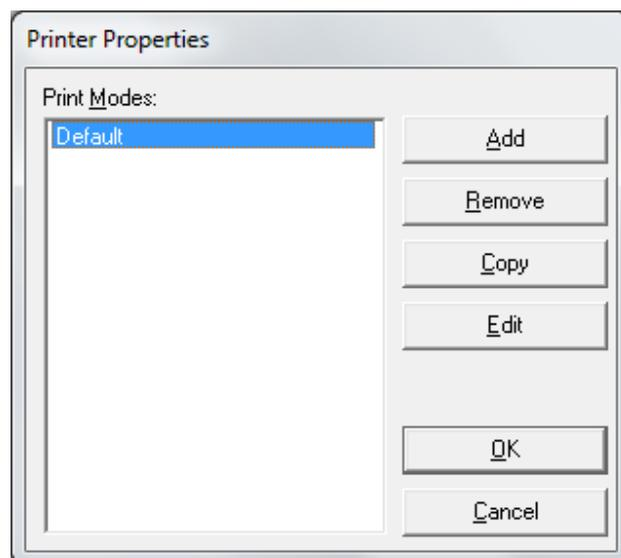

Fig 3-11
2. Click [Properties] to open Printer Properties (Fig 3-11).